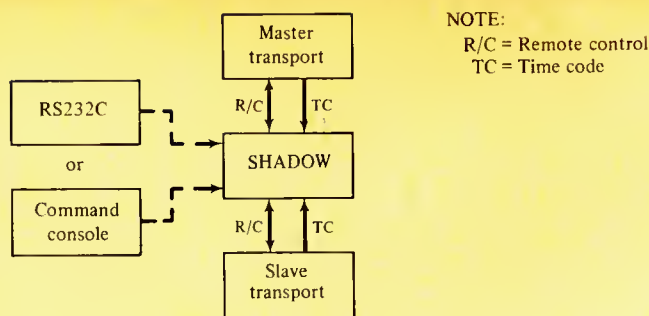
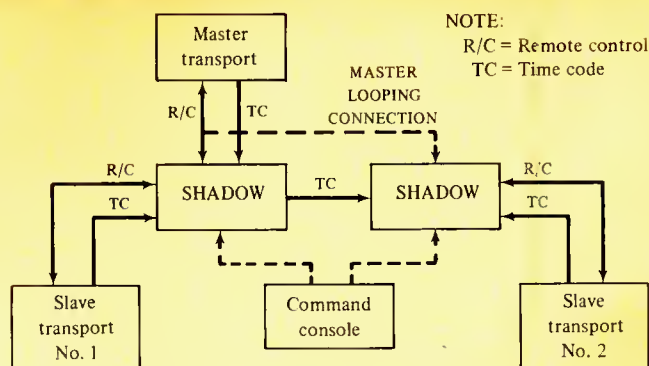

Figure 3. A two-machine, chasing slave application.
Figure 4. A two chasing slave machine application.
In FIGURE 3, the clipping level is presumed to be +12 dBm, as might be the case when feeding a tape-recorder. It is representative of situations where additional headroom cannot be provided without raising the noise-level. Under these conditions, unread peaks lasting as long as 60 milliseconds may be clipped. The shaded area indicates the duration and amplitude of unread peaks which, if present, will be clipped to produce audible distortion.
The BBC opted for the no-risk route from the beginning, bulky electronics notwithstanding. In FIGURE 4, the unread-peak curve of the PPM has been placed in the same tape-recorder context as the VU meter curve of FIGURE 3. The test-tone reference-level remains +4 dBm, which corresponds to a
When calibrated as shown in FIGURES 3 and 4, with a differential between the two peak reference-levels of 6 dB, the meters will tend to peak in the same range on material having average peak-levels. They will differ only when the PPM detects what the VU meter does not. The standard differential of 6 dB is empirical. Schmid (2) has suggested that a better average match can be obtained with a differential of 8 dB.
Figure 3. The unread-peak curve of the VU meter in the context of feeding a tape recorder, which is assumed to clip at a level 8 dB above the test-tone level. Unread peaks lasting as long as 60 milliseconds may be clipped. The hatched area represents the amplitude and the duration of unread peaks which, if present, will clip to cause audible distortion.
Figure 4. The unread peak curve of the PPM in the tape-recording context of Figure 3. Only unread peaks shorter than 10 milliseconds will be clipped. All others are indicated directly, and can be held within 2 dB of clipping. This is the BBC-developed characteristic for avoiding audible clipping distortion. The Headroom Meter has an identical unread-peak characteristic. Thus it shares the ability of the PPM to make maximum use of available headroom, while accommodating concerns beyond those of measurement alone.